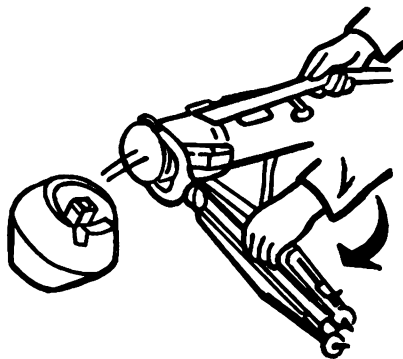

Figure 2.
2. Lower bipod to the vertical lock position. Don't worry about the forward shock popping off - it's supposed to (figure 2).